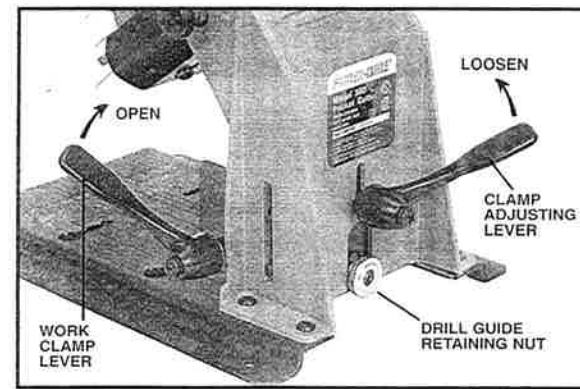

Fig. 6
1. Rotate the work clamp lever CLOCKWISE to the OPEN position (see Fig. 6).
The drill guide bushing location may be changed to meet individual preferences by loosening the retaining nut (see Fig. 6); move bushing to desired location and tighten retaining nut.